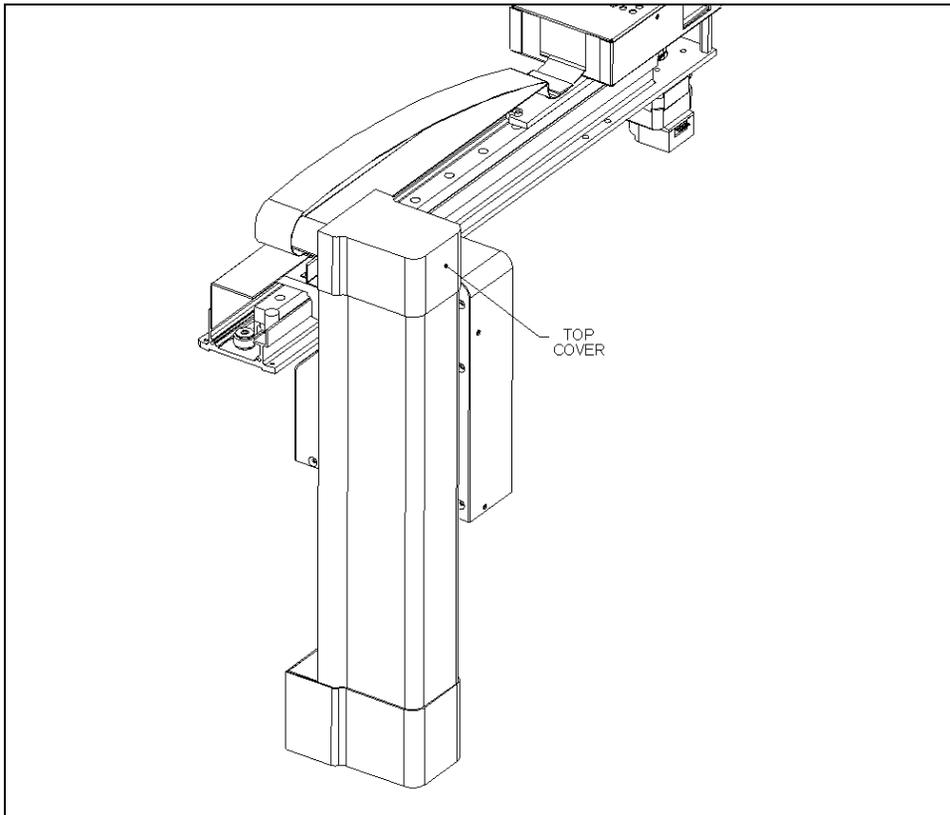

Figure 7-5 Z-Axis Drive Assembly: Top Cover
- 1 Remove the Z-Axis Top Cover (Part No. 204018000) from the Z-Axis Drive Assembly by removing the three M3 x 6 Button Head screws and three shakeproof washers (Figure 7-5).